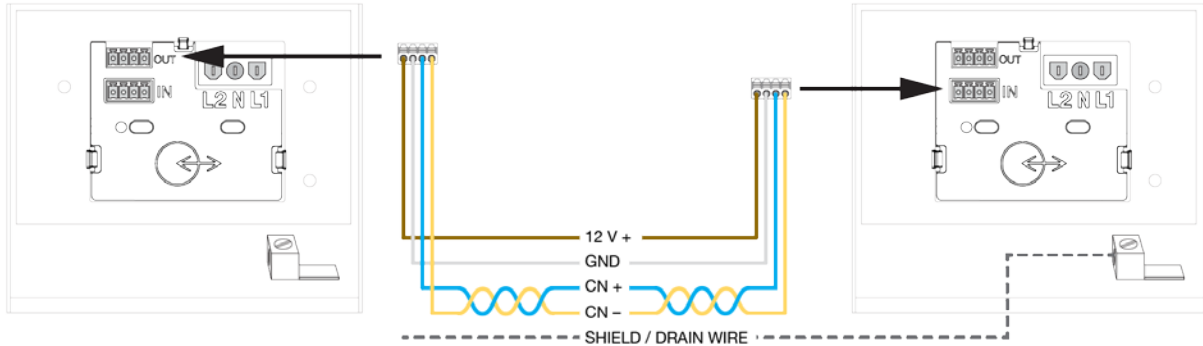

Figure 24: Connecting Powerwall Communication Ports
- Insert the shield/drain wire in the second Powerwall chassis ground lug (Fig 24). The ground lug is identified with the following symbol: . Tighten the screw in the ground lug to 4.5 Nm (40 lb-in).